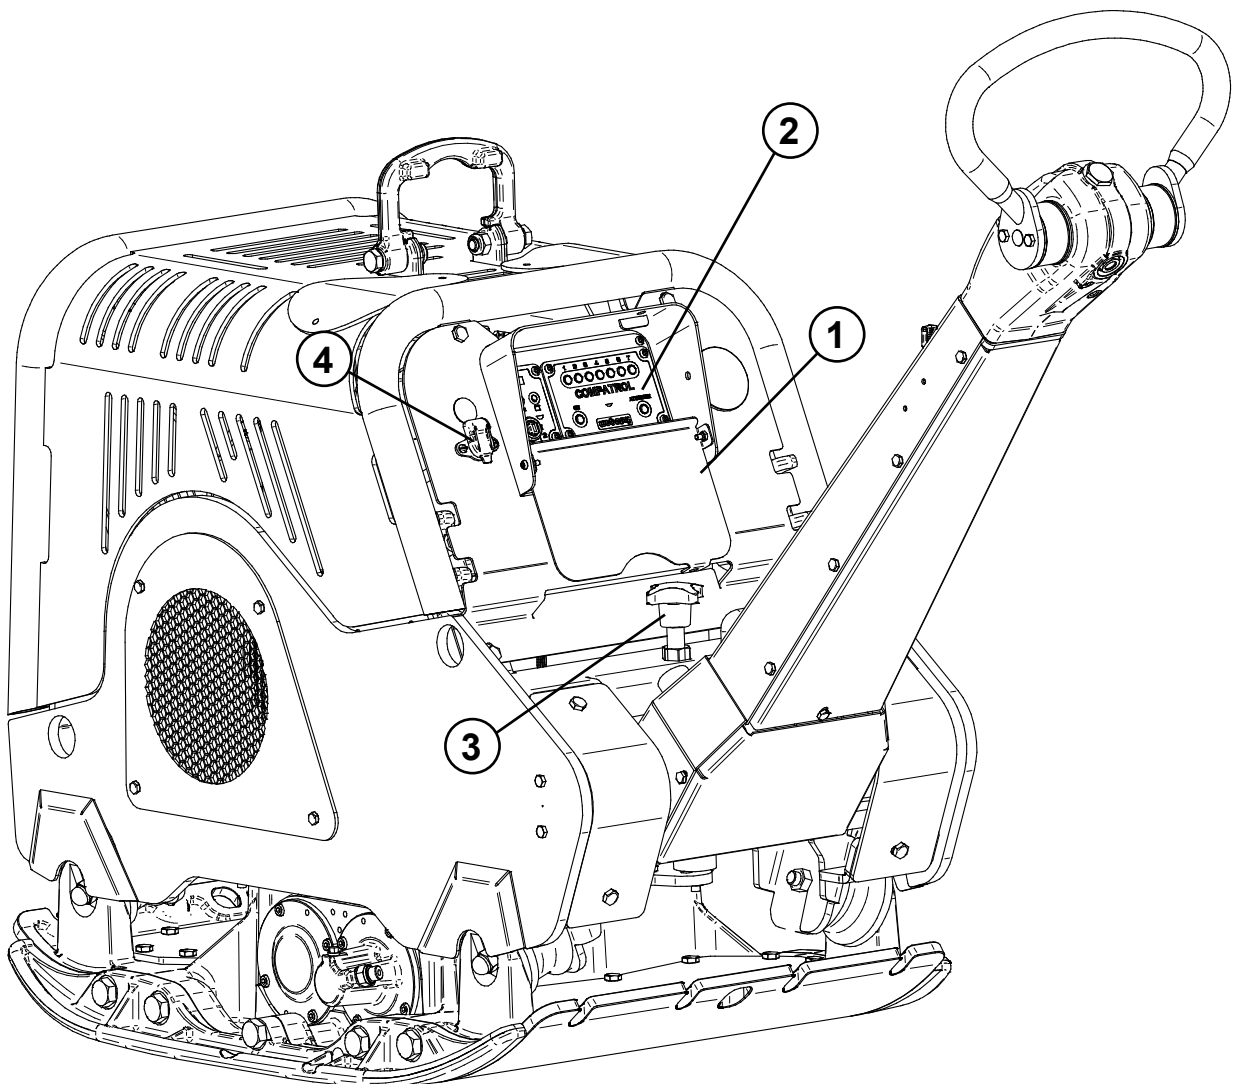

Figure 4
- ▶ Adjust the desired work height of the guide bar with the set screw (position 3, figure 4).
- ▶ Open the vandalism flap (position 1, figure 4).